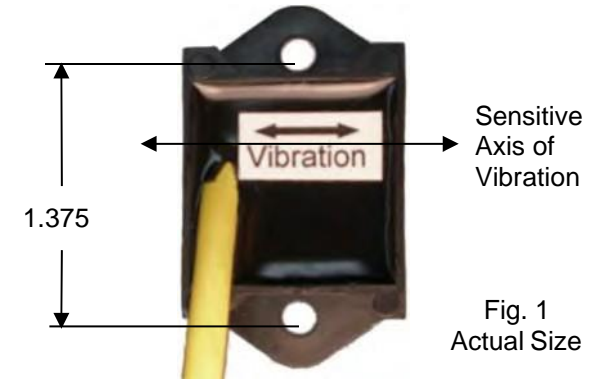
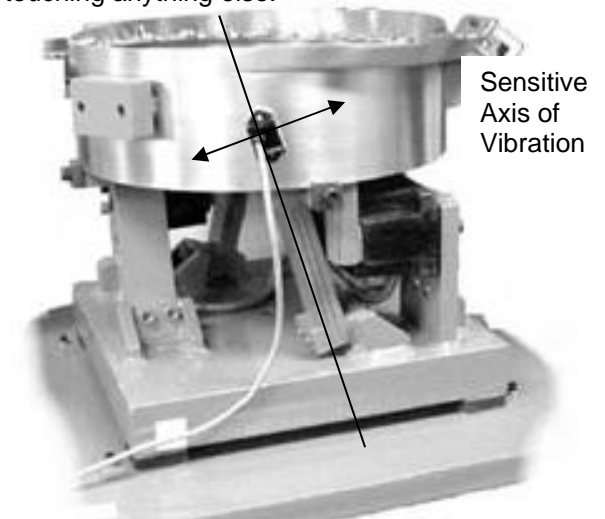

Fig. 1
Fig. 2 The arrow shows the direction of vibration which is at a right angle to the spring pack.
A. ORIENT THE SENSOR so that its sensitive axis is in the same direction as the vibration of the feeder. The arrow in figure 1 shows the sensor’s sensitive axis. Align the sensitive axis of the sensor in the same direction as the vibration (see figure 2). The sensor must be oriented correctly for proper operation.
- 6)Remove the vibration sensor from its protective packaging. Remove the liner from the adhesive backing. Avoid touching the tape. Align the sensor as shown in figures 1 and 2. Apply the vibration sensor to the prepared area of the feeder. Press the sensor very firmly onto the feeder surface for at least 10 seconds.
Use a cable tie and an adhesive-backed mount to attach the sensor cable to the side of the drive base. See Figure 2. Clean the mounting area before applying the adhesive-backed mount.